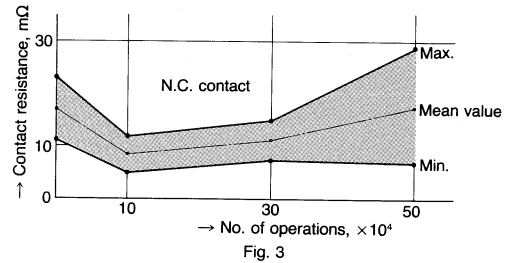

Fig. 3
2. Contact resistance: Fig. 3, Fig. 4